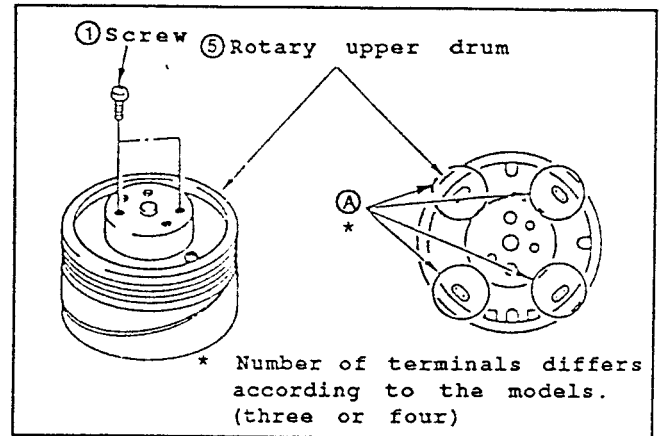
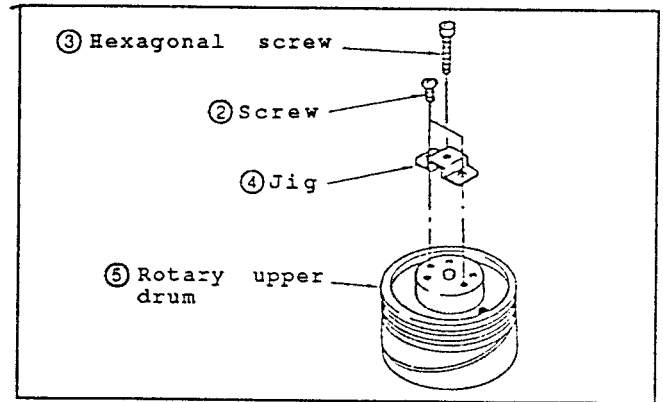

Fig.II-27
Fig.II-28
- (1) Unsolder three solderings (a). Then, confirm that the terminals which come out from the hole of C.B.A. can be moved freely. (Fig.II-27)
- (2) Remove the two setscrews (1).
- (3) Secure the jig (4) to the drum with the two setscrews (2). (Setscrews supplied with jig (4) as a set.) Then, screw in the hexagonal bolt (3) into the hole of jig (4) to dismount the rotary upper drum (5). (Fig.II-28)
- (3) Pull out the jig (7), and then push the rotary upper drum (5) into the lower one manually and gently. If it cannot be set completely to the bottom, Tighten the two setscrews (1) alternately and temporarily. (Fig.II-27)
- (4) Insert the jig (7) into the positioning holes (6) again. If it cannot be inserted smoothly, loosen the two setscrews (1). Then perform the step (3) of disassembling procedure.
- (5) Tighten the two setscrews (1) thoroughly.
- (6) Solder the terminals (a). (Fig.II-27)